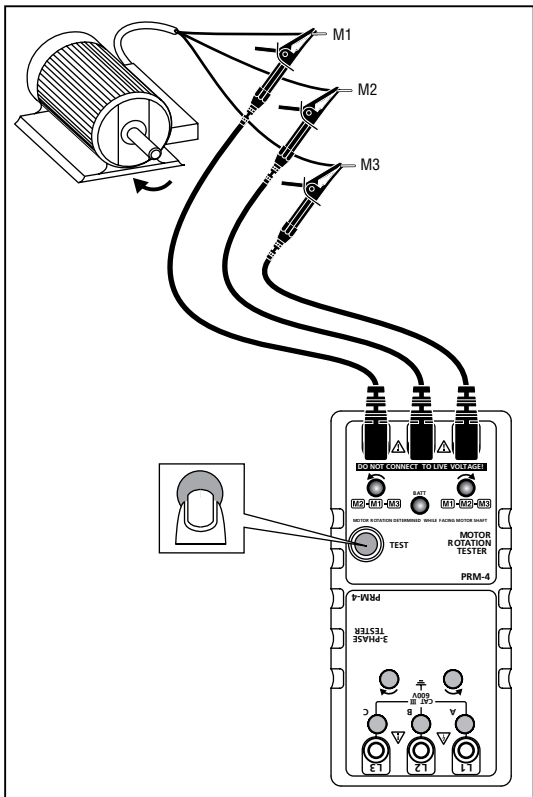

Figure 2
2. Connect the color coded test leads to the three motor input terminals M1- M2-M3. Press the power button (See Figure 2). The green indicator light will be ON.